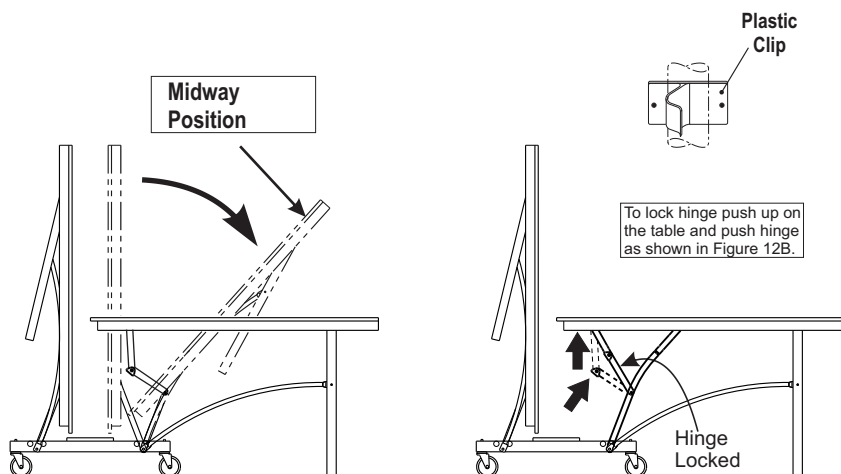

Figure 7A
1. Hold center of top edge. Gently pull outward to midway position. Continue to pull until disengaged from plastic clips and legs rest on the floor as shown in **Figure 7A** and **7B**. Do not leave table partially opened at midway position.